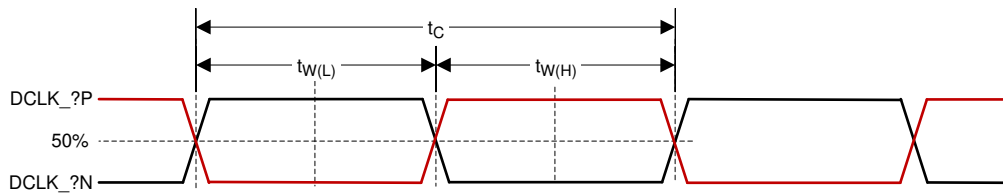

Figure 5-12. HSSI CLK Characteristics
(7) See Figure 5-12 for pulse duration high and low for HSSI.